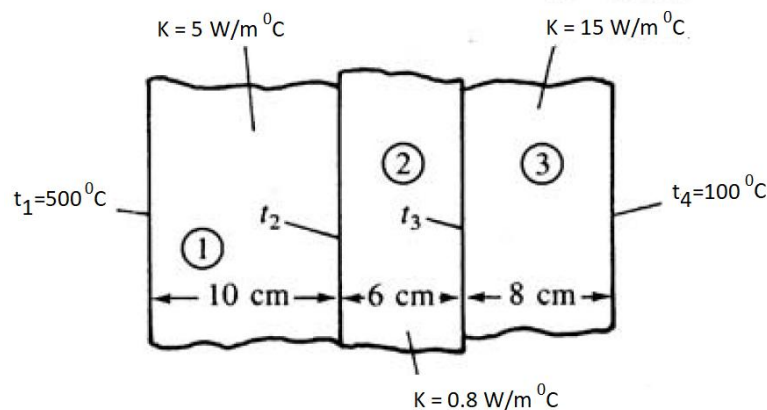

Figure.4
7. a) For the composite wall shown in figure.4, determine the interface temperatures [10] considering three elements.